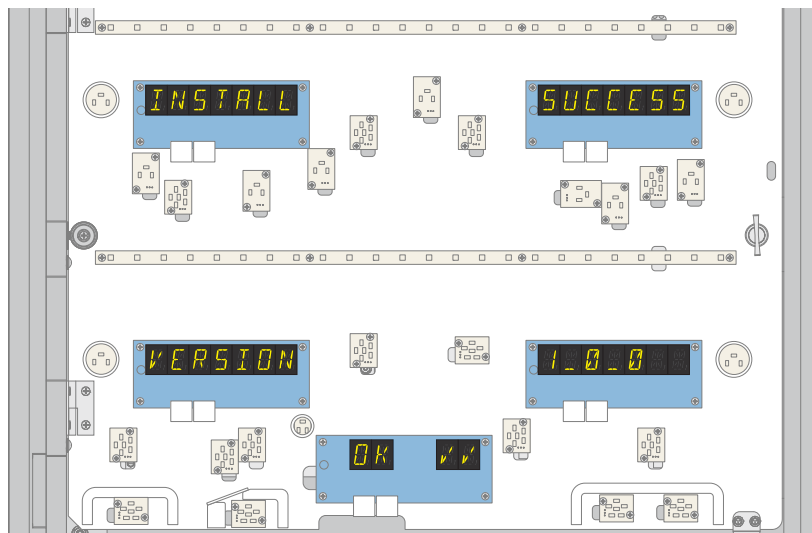
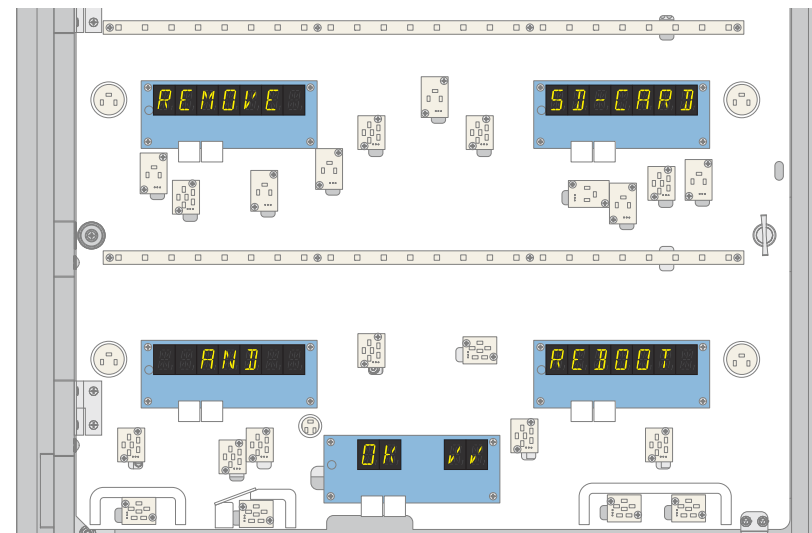

Figure 4-15. Displays - Successful install.
Figure 4-16. Displays - Reboot instructions.
13) When the verification process is complete, the displays will change again to show the result of the install (figure 4-15) and provide instructions for finishing up (figure 4-16). These notifications will alternate indefinitely. Power the game down and remove the microSD card from the BeagleBone board. Depress the top of the card - it will click-unlock; then slide the card straight up and out. Power the game ON. **Note:** you can verify the current software version at any time by entering the game's Main Menu - open the coin door and press the black (**BEGIN TEST**) button.